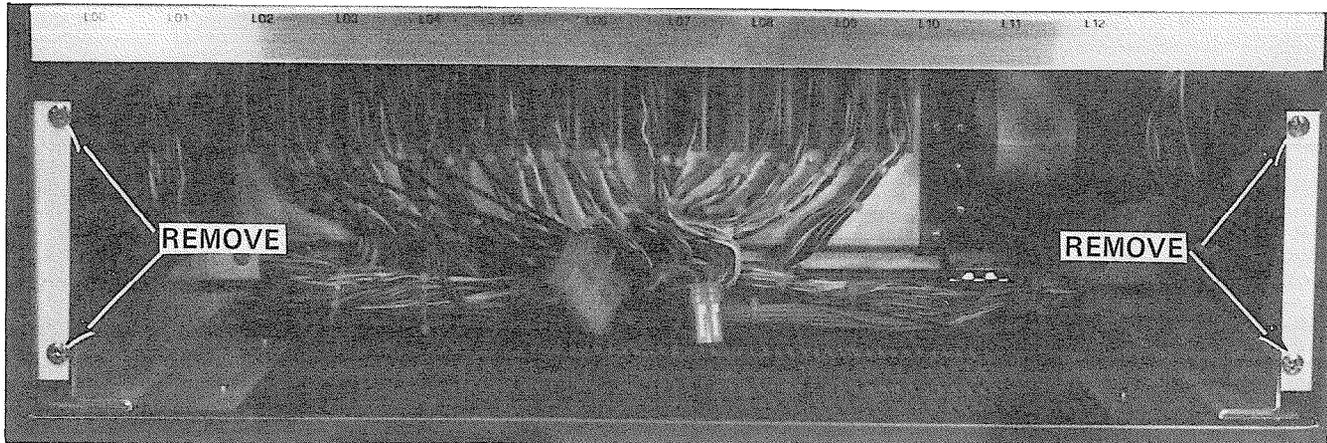

FIGURE 13—DPSA MOUNTING SCREWS
- e) Remove and save the four DPSA mounting screws from the front of the DCEC (Figure 13).